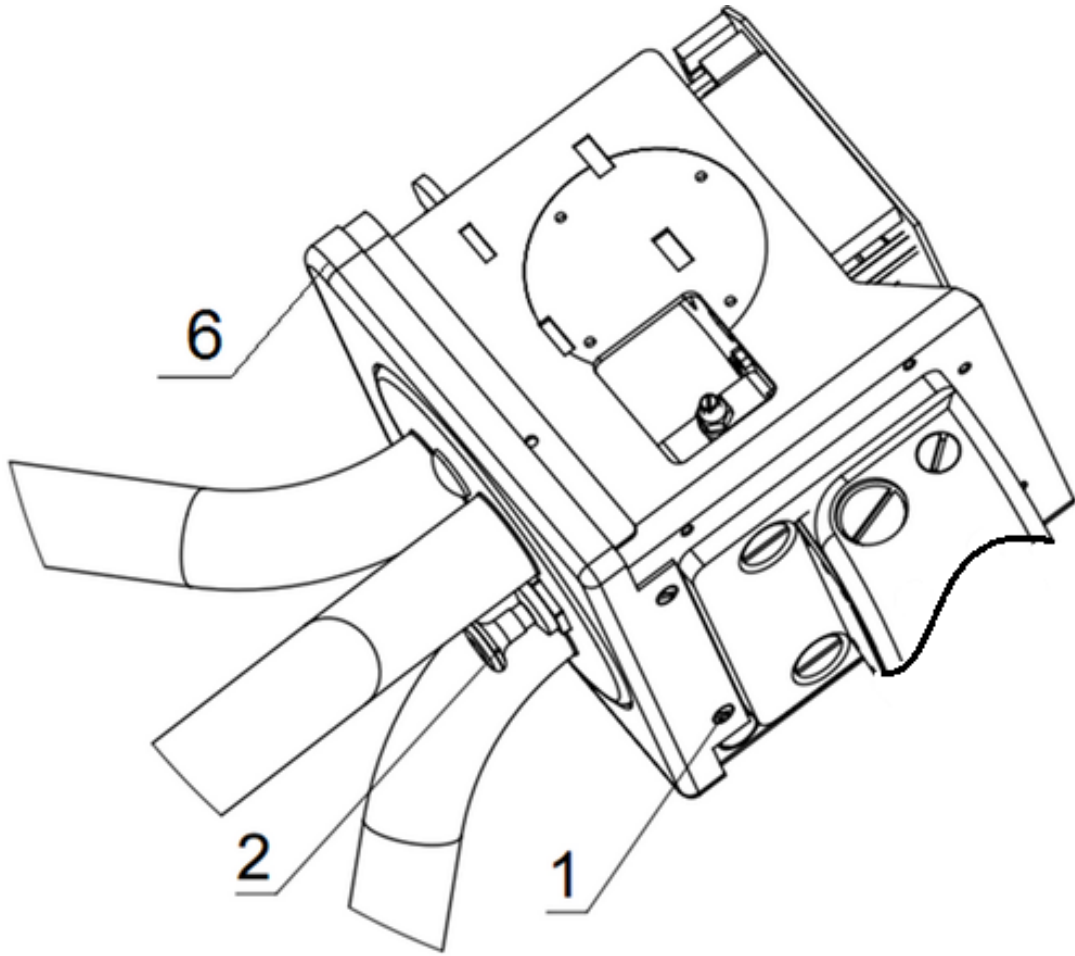

Fig.6.
1. Remove lower decorative board having undone two screws 1 (Fig.6)